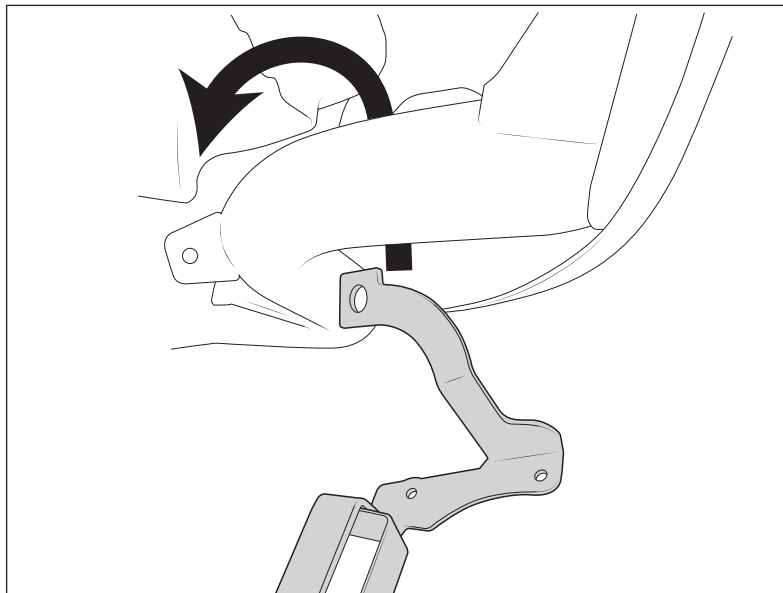

Figure 6
1. Route Light Bracket into position, up and over the bumper tube (fig. 6).